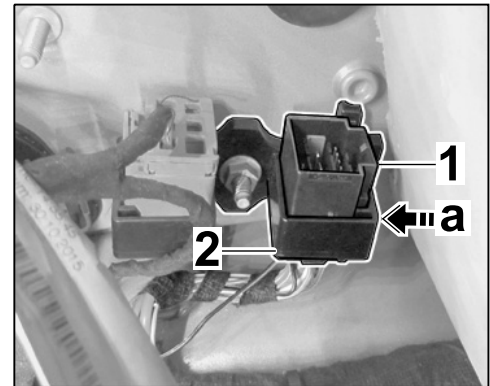

Figure 9
- 2.3.2 Release pin connector socket ⇒ *Figure 9-1-* (⇒ *Figure 9-a-*) and pull it down out of the holder ⇒ *Figure 9-2-*.